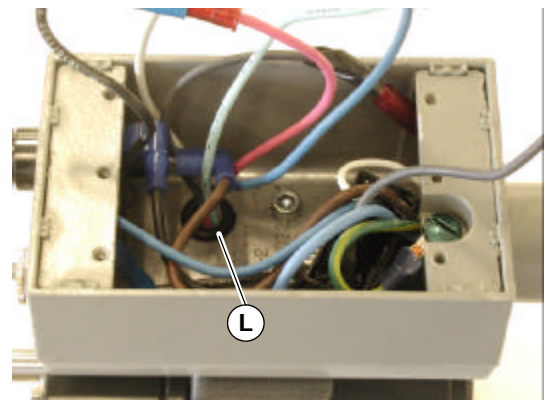

Figure 12
9. Locate motor grommet (L of Figure 12).